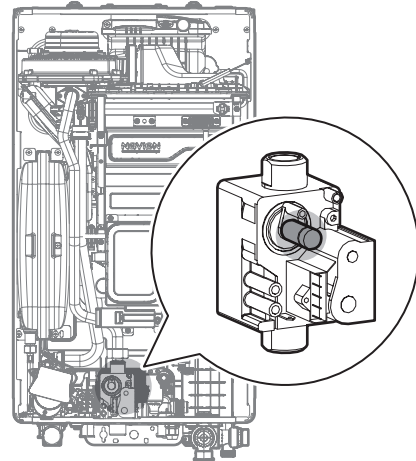

Figure 8. Set Screw Location
- c. Fully open several hot water fixtures and set the boiler to operate. Measure the CO₂ value at low fire. If the CO₂ value is not within 0.5% of the value listed in Table 2, the gas valve set screw will need to be adjusted. If adjustment is necessary, locate the set screw as shown in Figure 8. Using a T15 Hexalobular wrench, turn the set screw no more than 1/4 turn clockwise to raise or counterclockwise to lower the CO₂ value.